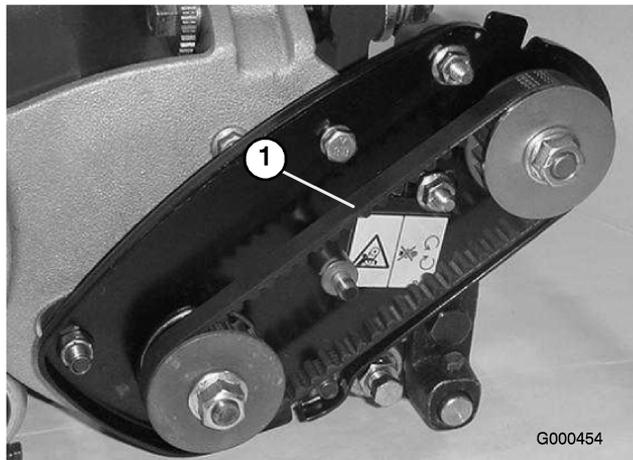

Figure 31
2. Check tension by depressing belt (Figure 31) at mid span of pulleys with 4 ± 1 lb. of force. Belt should deflect 1/4 in. If deflection is incorrect, proceed to next step.